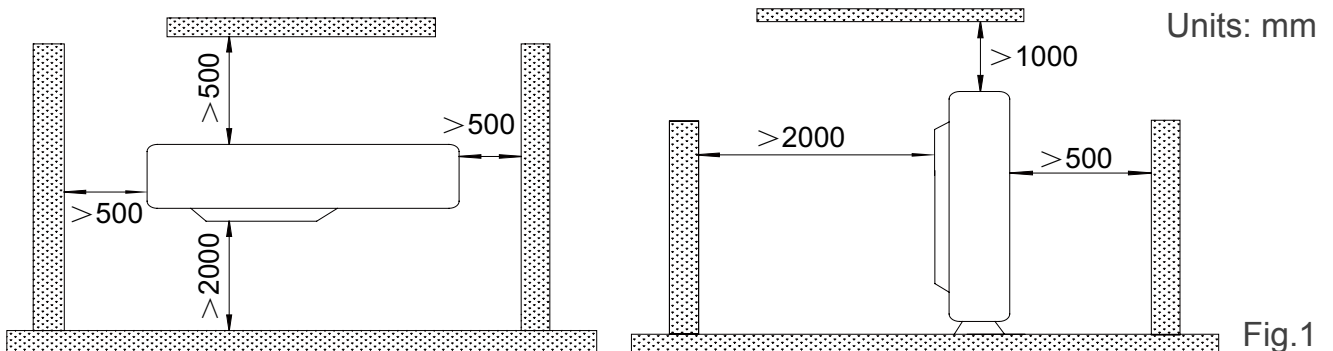

Fig.1
2. Provide the space shown in Fig.1, so that the air flow is not blocked. Also for efficient operation, leave three of four directions of peripheral constructions open.